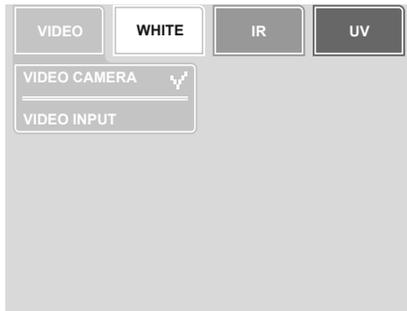
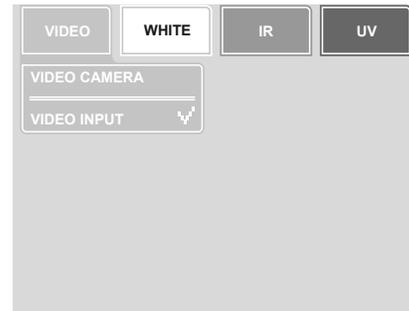

Fig. 18. Switching on the operation mode with the device built-in camera
Fig. 19. Switching on the operation mode with a video magnifier
To switch the device to a built-in camera, select the **VIDEO** item in the operation mode menu and then the Video camera (see Fig. 18). To return to operation with the video magnifier, press respectively the **LIGHT-SELECT** or the **SELECT** key (10 or 11) or select the Video input item in the **VIDEO** submenu (see Fig. 19); a message will appear in the top part of the screen saying about the necessity to set the required light mode of the connected magnifier.